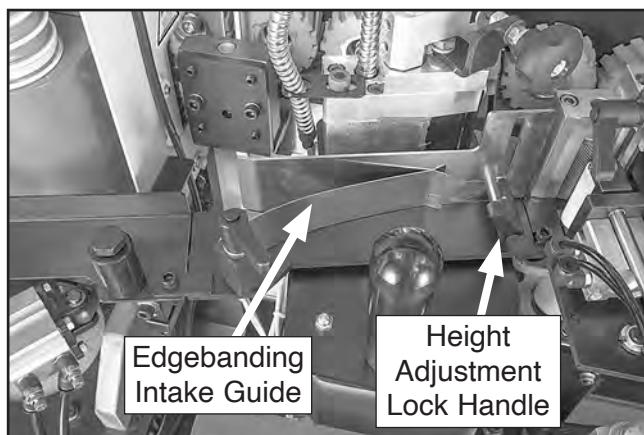

Figure 54. Location of edgebanding intake guide and height adjustment lock handle.
6. Loosen edgebanding height adjustment lock handle (see **Figure 54**), raise handle above edgebanding tape, then tighten to secure.